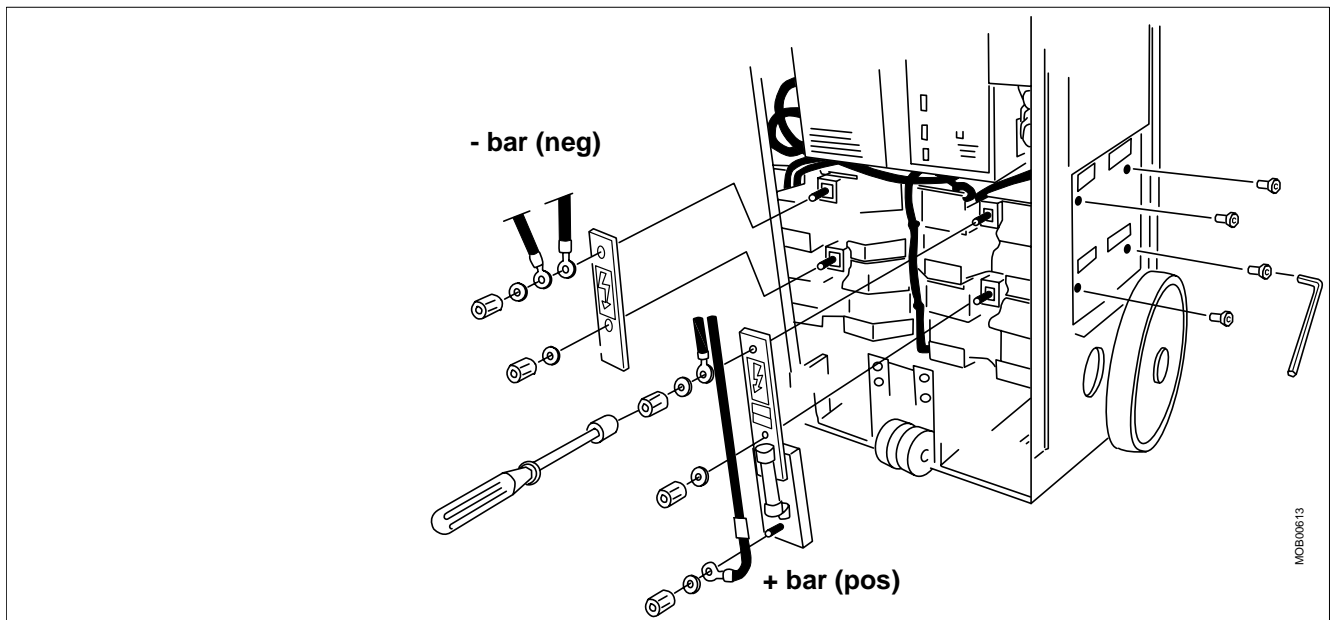
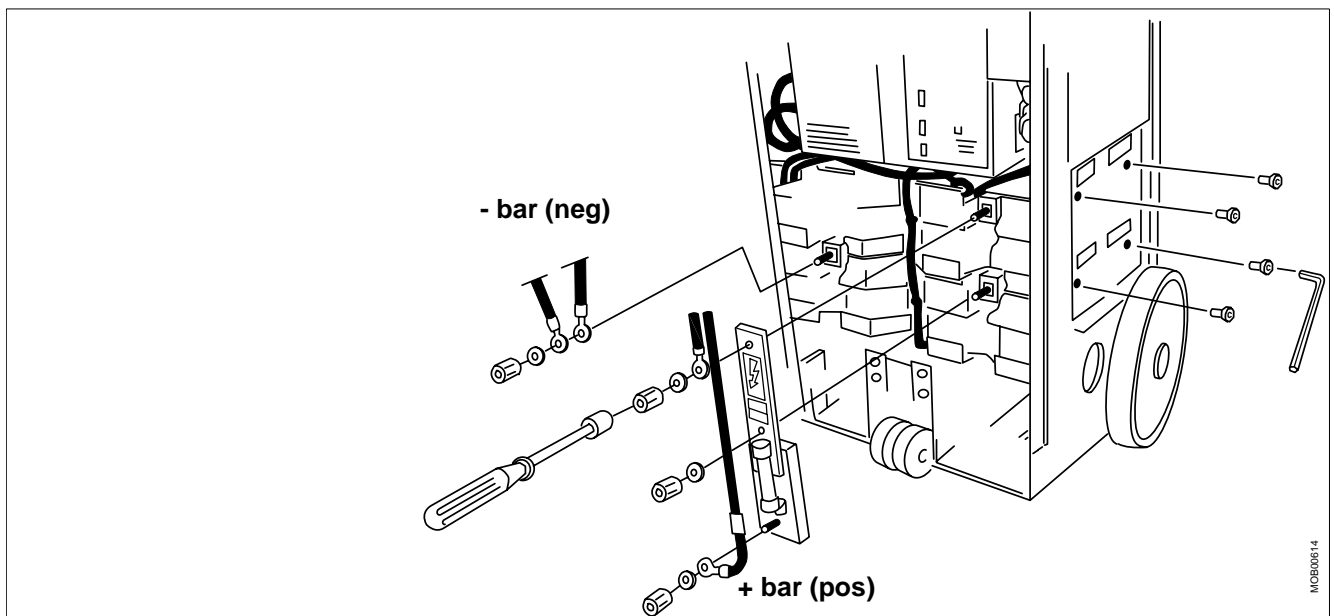

Fig. 3 MOBILETT Plus
Fig. 4 MOBILETT Plus E
- Note the cable connections to the capacitor bank (Fig. 3 for MOBILETT Plus and Fig. 4 for MOBILETT Plus E)